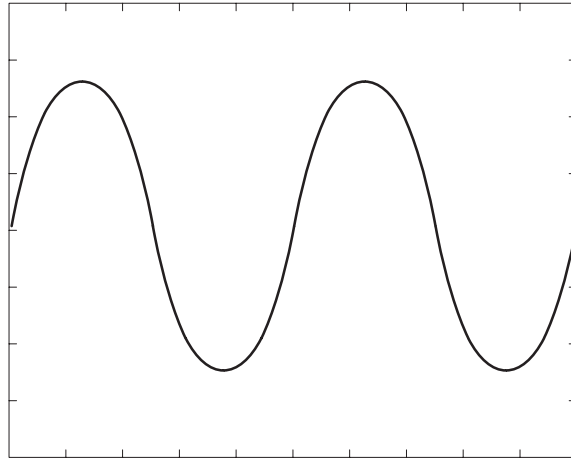
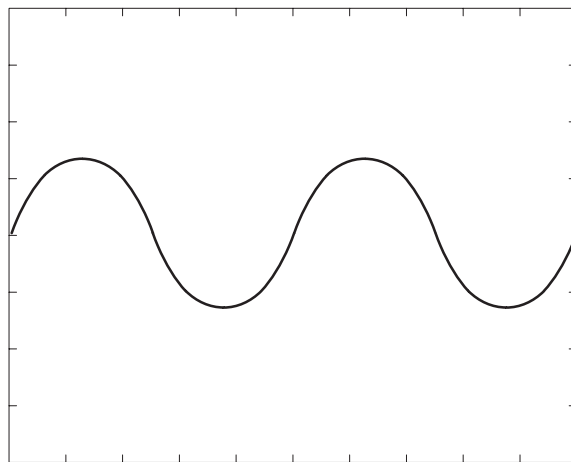

Figure 4-30: Waveform while all ground disclosure switches are open
Figure 4-31: Waveform output when the SW1 is closed
- c. Verify that the oscilloscope displays the waveform as shown in Figure 4-31 and that the waveform is about half the amplitude as that shown in Figure 4-30.
- e. Verify that the oscilloscope displays the waveform in Figure 4-30.
- d. Verify that the oscilloscope displays the waveform in Figure 4-30.